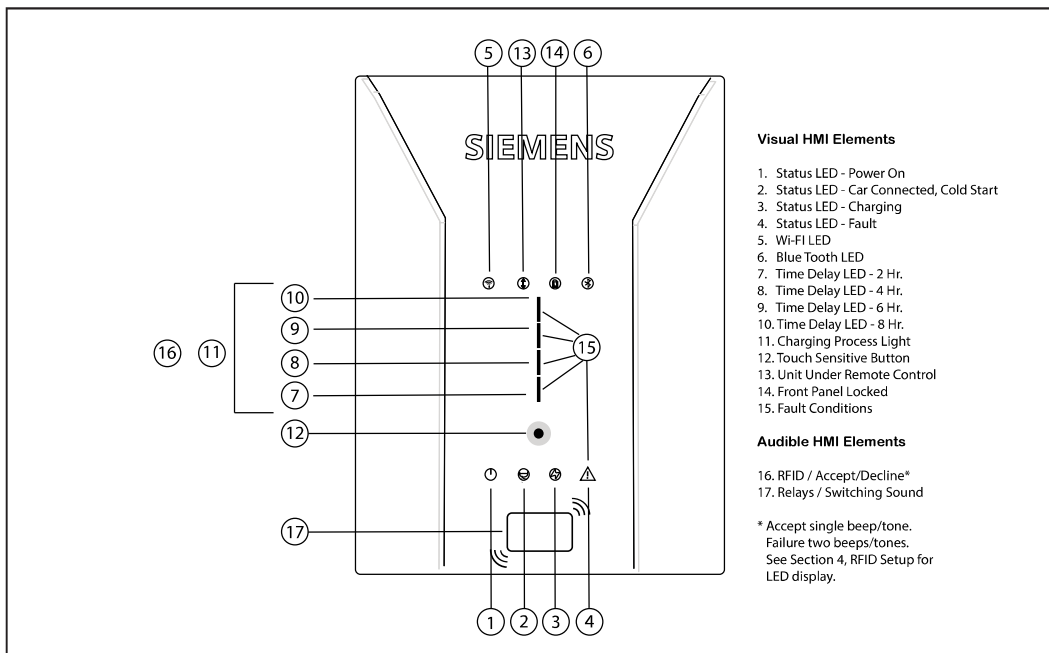

Figure 19. Commercial HMI
- Check the charger "Lock" light (see Figure 19, commercial chargers only); when lit, the front panel is locked and will not begin charging. Pass a user RFID card in front of the reader to unlock and begin charging. The "Lock" light will be off.